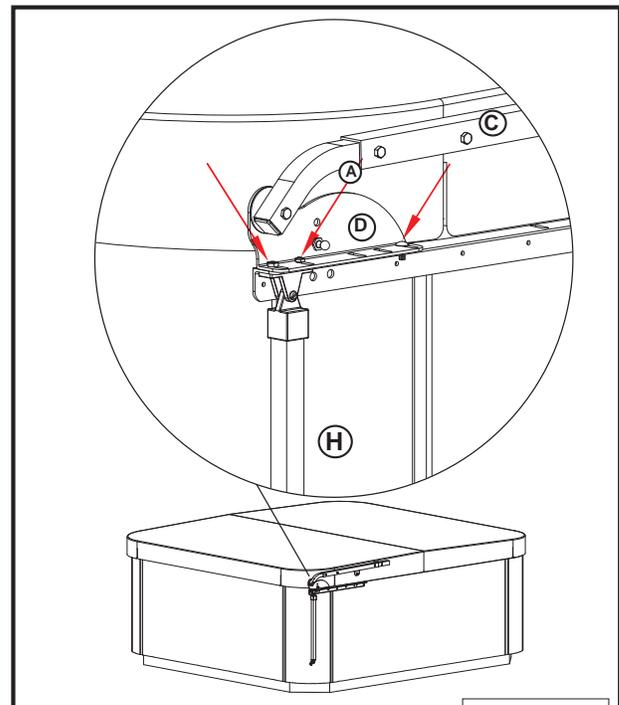

Figure 1.8
1. To position the Base Bracket (A) Loosen the (3) screws that hold the Base Bracket (A) to Auxiliary Bracket (D) (Figure 1.8).